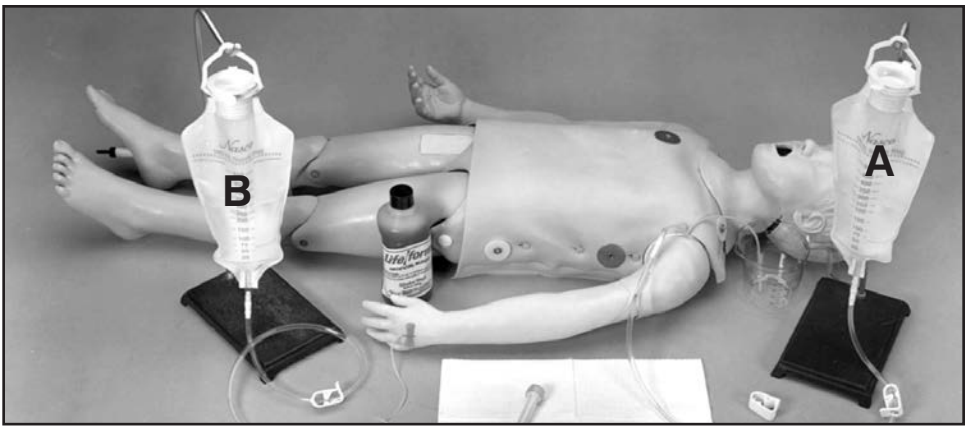

Figure 2
1. Close clamp at end of both IV bag tubes, then fill with water (distilled water is recommended), and hang not more than 18" above the arm. (**See figure 2.**)